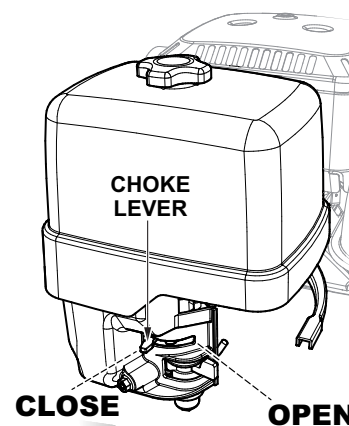

Figure 13. Engine Choke Lever (Closed)
- If starting a cold engine, place the choke lever (Figure 13) in the **CLOSED** position.